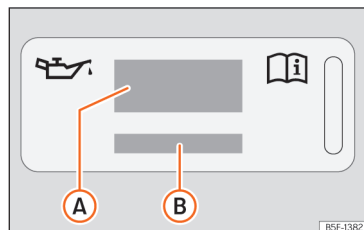
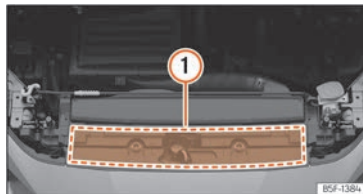

Fig. 285 In the engine compartment: engine oil label
Fig. 286 In the engine compartment: area where the engine oil label is located
Key to the »» **Fig. 285**:
If the engine oil has to be topped up, use one of the oils shown on the label »» **Fig. 285**. The label with the prescribed standard is located at the front of the engine compartment »» **Fig. 286** ①. If you use the recommended engine oil, you can top up the oil as often as necessary.